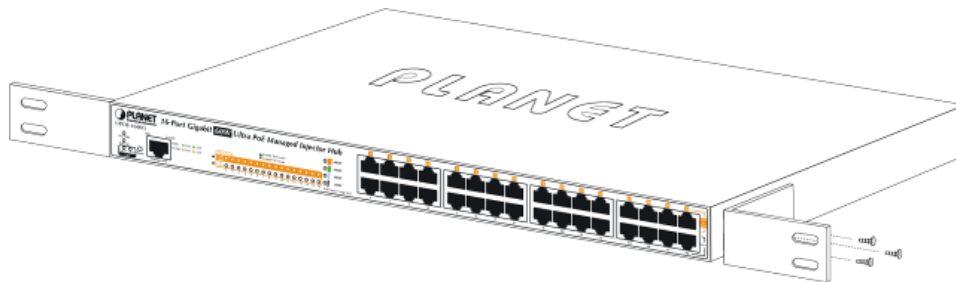

Figure 2-2-2: Brackets attaching to the 10Gbps 802.3bt PoE++ Managed Injector Hub
Step 2: Attach a rack-mount bracket to each side of the 10Gbps 802.3bt PoE++ Managed Injector Hub with supplied screws attached to the package. Figure 2-2-2 shows how to attach brackets to one side of the 10Gbps 802.3bt PoE++ Managed Injector Hub.